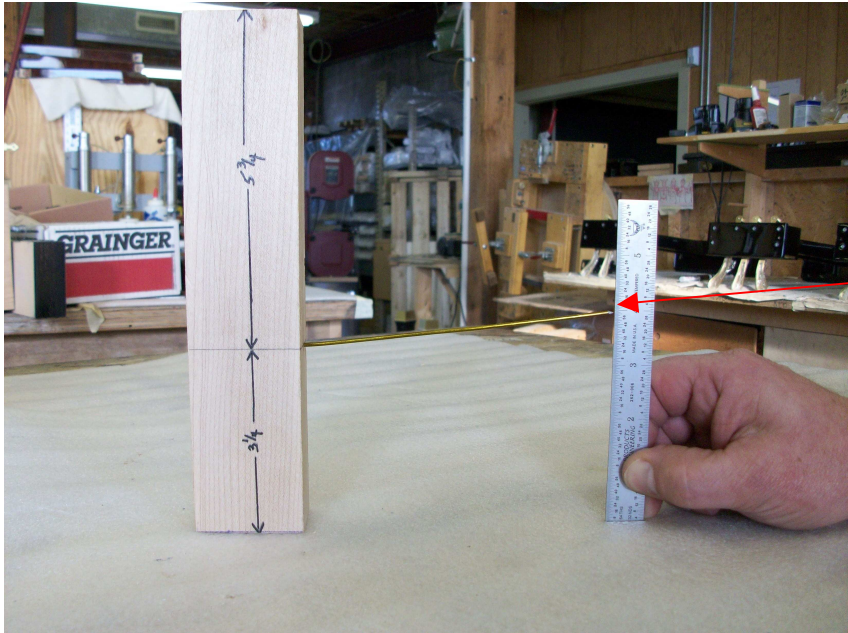

Fig. 12
- i. Set the top action height gage to the factory setting by bending the wire up or down. (See Fig. 12)